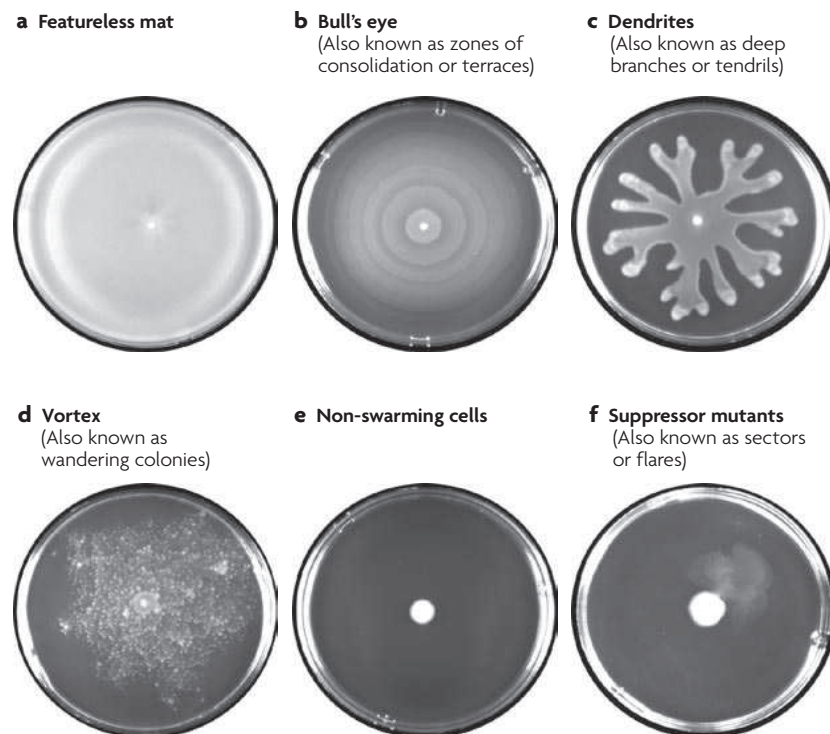

Figure 9.3. Some patterns of motility on swim agar. From Kearns 2010, Nature Reviews Microbiology
11. Observe the plates over the next couple of weeks. Record whether they are motile, and if so, what macroscopic form the motility takes (see Fig. 9.3 for example).